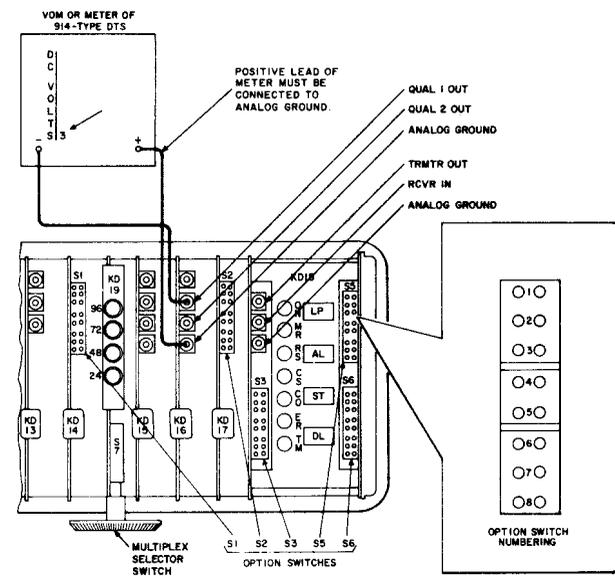

Fig. 5—Compromise Equalizer Test Setup
- (1) Call the STC and verify that options WK(S1-4), WN(S1-2), WP(S3-1), WS(S1-7), XG(S5-6), or XI(S5-8) are installed in the distant-end data set. (Disregard additional options not listed.)
- (2) Refer to Fig. 5 and install options WN(S1-2), WK(S1-4), WS(S1-7), XG(S5-6), or XI(S5-8) in the local data set. (Disregard additional options not listed.)
- (3) Verify that the distant-end data set is in the digital loop-back mode and that the ST switch is depressed.
- (4) Position the multiplex selector switch of the local data set to 2400 bps. (This conditions the **quality 2 out** test point on KD16 of the local data set to indicate the quality of the received signal at the distant-end data set.)
- (5) Apply power to the local data set.
- (6) Depress the ST switch of the local data set. Ignore momentary blinking of the status indicators. The ER indicator is lighted while the ST switch on the distant-end data set is depressed.
- (7) Measure and record the dc voltage at **quality 1 out** test point as shown in Fig. 5.
- (8) Remove option shorting jack S1-4 and reinstall at S1-5.
- (9) Measure the dc voltage at **quality 1 out** test point as shown in Fig. 5.
- (10) Install the option shorting jack (either S1-4 or S1-5) which results in the minimum negative voltage magnitude indication (VOM indicates less than 2 volts dc).
- (11) Install option WM (S1-1) in the local data set.
- (12) Measure and record the dc voltage at **quality 1 out** test point as shown in Fig. 5.
- (13) Remove option shorting jack S1-1 and reinstall at S1-3.
- (14) Measure and record the dc voltage at **quality 1 out** test point as shown in Fig. 5.
- (15) Remove option shorting jack S1-3 and reinstall at S1-2.
- (16) Measure the dc voltage at **quality 1 out** test point as shown in Fig. 5.
- (17) Install option shorting jack S1-1, S1-2, or S1-3, which results in the minimum negative voltage magnitude indication (VOM indicates less than 2 volts dc).
- (18) Install option WP (S3-1) in the local data set.
- (19) Disconnect the VOM negative test lead from **quality 1 out** test point and connect to **quality 2 out** test point.
- (20) Measure and record the dc voltage at **quality 2 out** test point. (Refer to Fig. 5.)